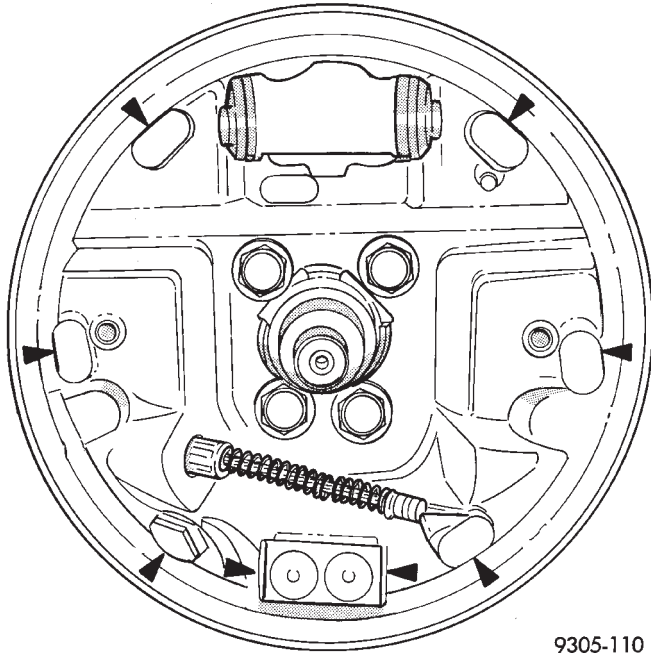

Fig. 75 Brake Shoe Contact Areas on Support Plate
(1) Lubricate the eight shoe contact areas on the support plate and anchor using Mopar Multi-Purpose Lubricant or equivalent (Fig. 75).